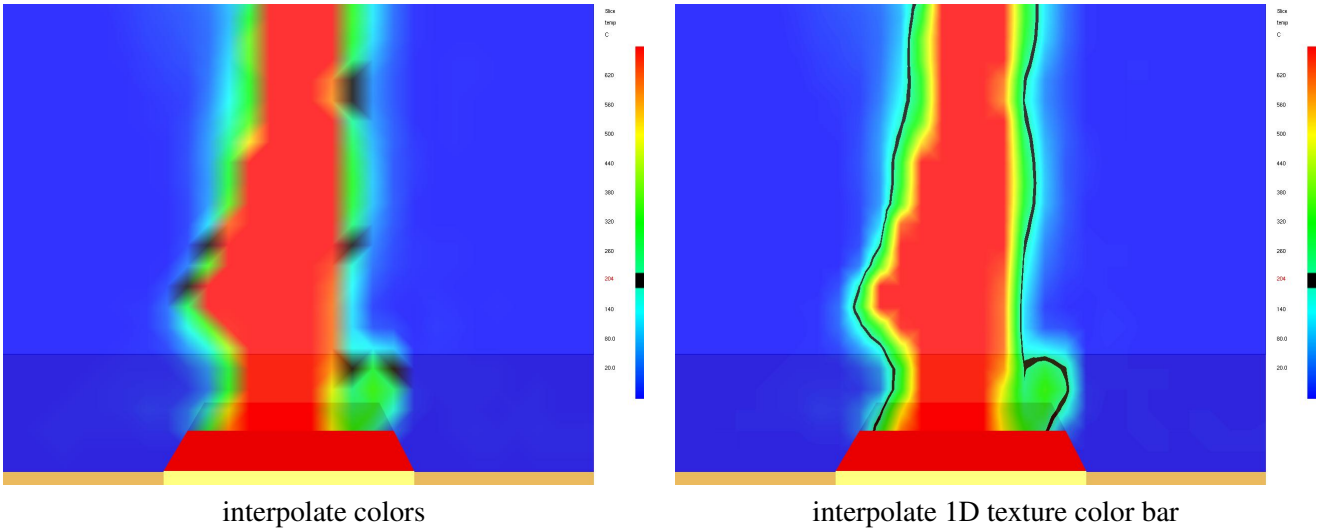

Figure 7.4: Slice file snapshots illustrating old and new method for coloring data.
**New data coloring** Smokeview uses a new more precise method for coloring data occurring in slice, boundary and PLOT3D files. This is illustrated in Figure 7.4. The colors are now crisper and sharper, more accurately representing the underlying data. This is most noticeable when selecting the colorbar with the mouse. As before this causes a portion of the colorbar to turn black and the corresponding region in the scene to also turn black. Now the black color is accurate to the pixel so this feature could be used to highlight regions of interest. The improved accuracy is a result of the way color interpolations are performed. The new method uses a 1D texture map (the colorbar) to color data. Colors are interpolated within the colorbar. Color interpolations with the former method occurred within the color cube.